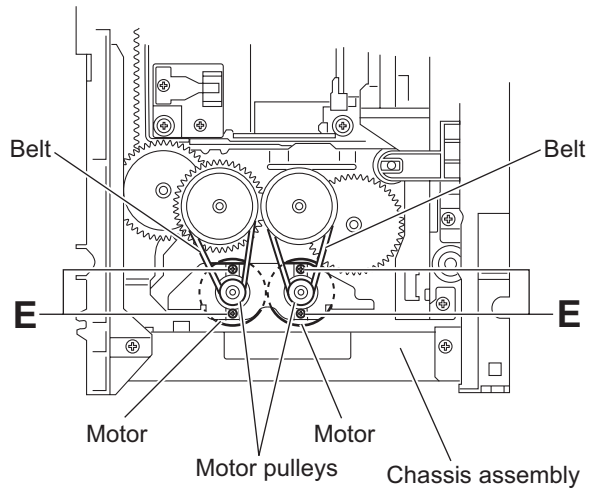

Fig.9
3.2.4 Removing the motor board (See Figs.9 and 10)
- (1) From the top side of the DVD changer mechanism assembly, remove the two belts from the motor pulleys. (See Fig.9.)
- (2) Remove the four screws **E** attaching the motors to the chassis assembly. (See Fig.9.)